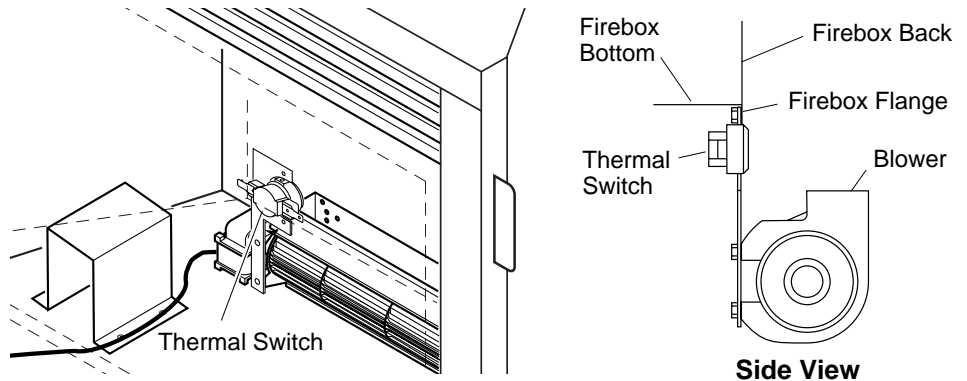

Figure 32 - Locating Thermal Switch Against Back of Firebox
*Note:* For DA3610T, make sure the thermal switch is comfortably under the back of the firebox as shown in Figure 32, page 17.